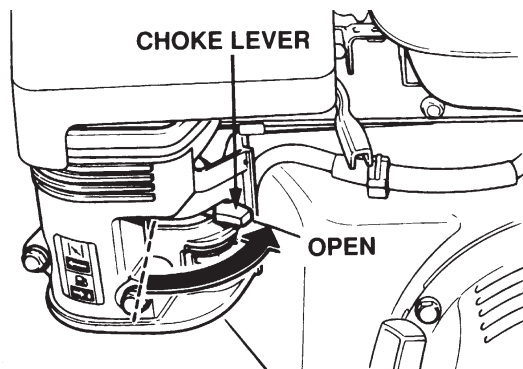

Figure 26. Choke Lever (Open Position)
7. If operating the SP2 in **cold weather conditions**, skip this step and proceed to step 8. Place the **Choke Lever** (Figure 26) in the **OPEN** position. Skip to step 9.